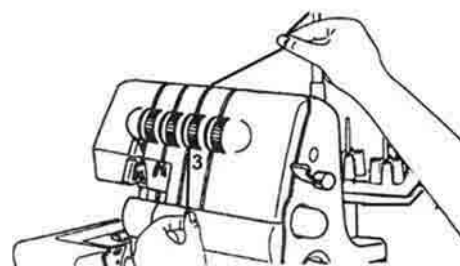

Fig. 17
4. Firmly hold the yarn with your fingers, guide it between and through the discs of the thread tension selector 16 and then pull it down (3) (Fig. 17).